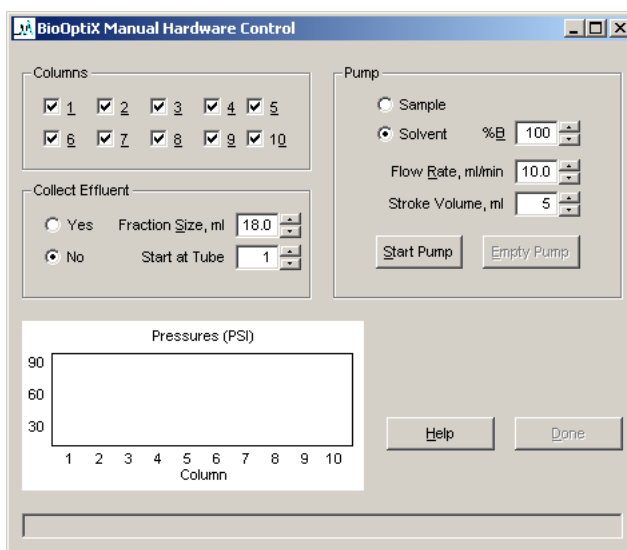

Figure 2-20 BioOptix 10 Manual Hardware Control window
8. From the BioOptix 10 software menu, select Tools>Manual Control. The BioOptix 10 Manual Hardware Control window is displayed (Figure 2-20).
9. In the Columns section of this window, check each channel number that should be primed. Configure the remaining settings to match those shown in Figure 2-20.